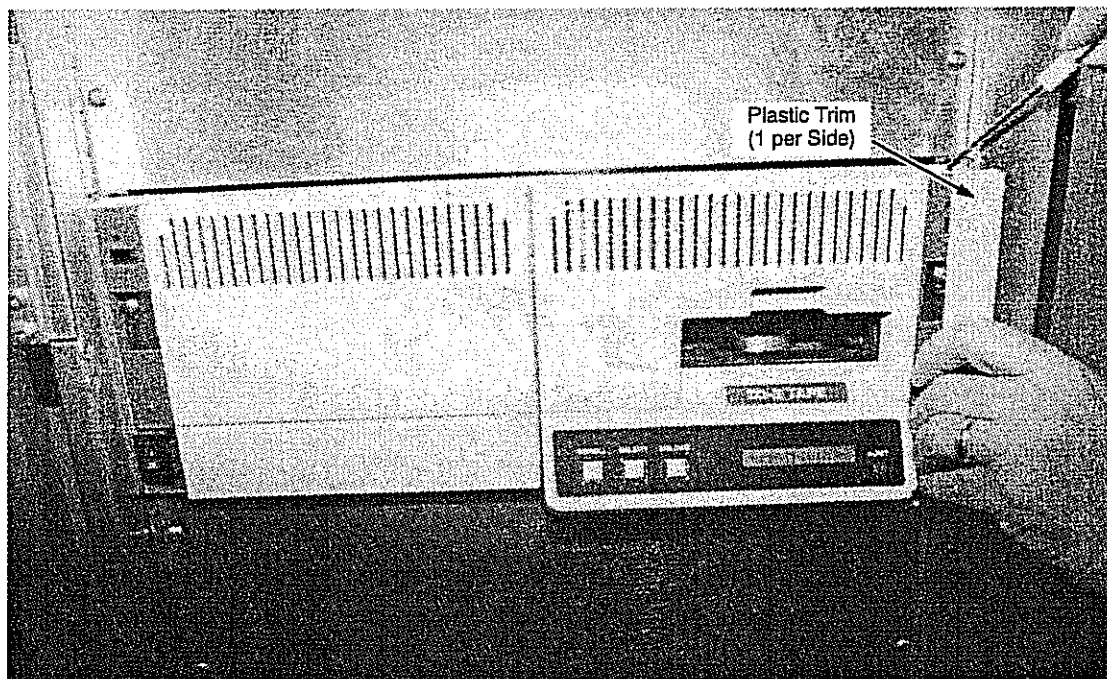

Figure 7-59. TD-3 Tape Drive Front View
3. Use a small flat-bladed screwdriver to pry off the plastic trim on each side of the front of the tape drive. Pry both the top and bottom of the trim piece to loosen the part before removing it. Refer to Figure 7-59.